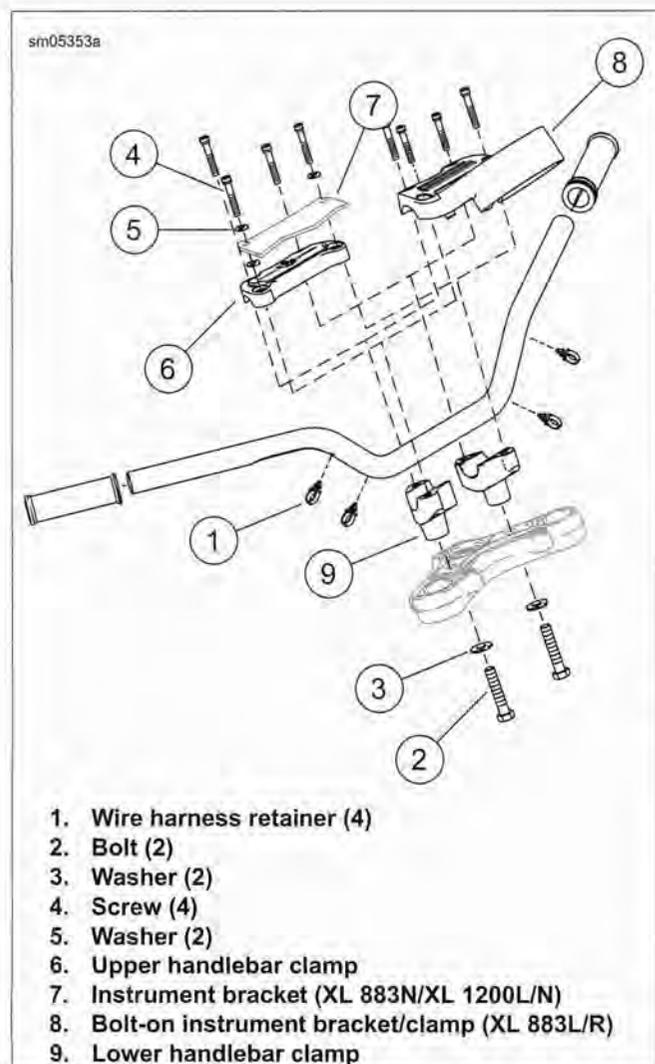

Figure 2-188. Handlebar: XL 883L/N/R; XL 1200L/N
1. See Figure 2-188. Cut and remove four wiring harness retainers (1). Be careful not to cut into wiring harnesses. Discard retainers.
3. If removing lower handlebar clamps, loosen, but do not remove, two bolts (2) securing lower handlebar clamps (9) to upper fork bracket.
4. Remove screws (4) and the bolt-on instrument bracket (7) (if equipped), upper handlebar clamp (6) or instrument bracket (8).
7. If removing lower handlebar clamps, remove two bolts (2), washers (3) and lower handlebar clamps from upper fork bracket.
**Drag Bar:** See Figure 2-188. See **Installation, XL 1200C.**
**Mini-Ape:** See Figure 2-188. See **Installation, All Models except XL 1200C.**